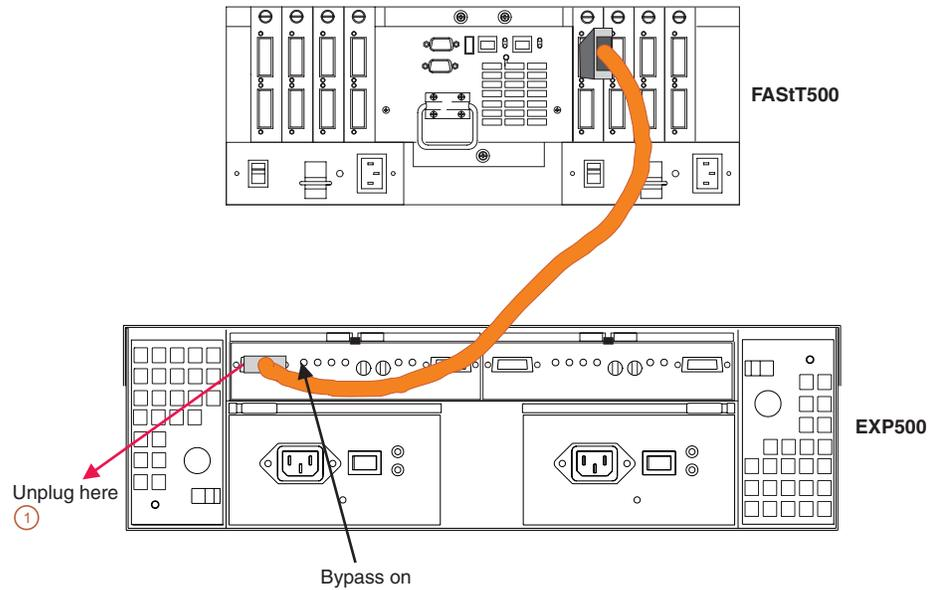

Figure 45. Disconnect cable from loop element
1. Disconnect the cable from the loop element that has the bypass indicator light on. See Figure 45 on page 117.